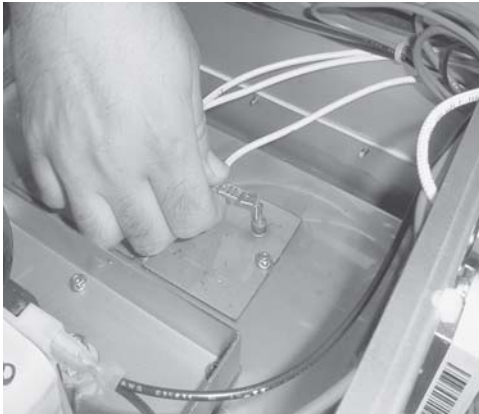

Figure 3-31
2. Unplug the wires to the heater and high limit. Figure 3-31.